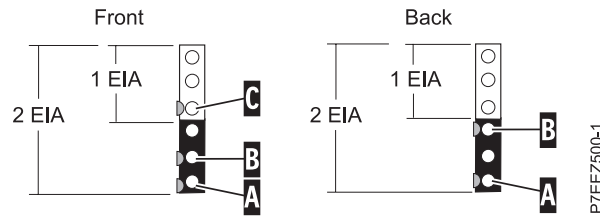

Figure 2. Marking holes on the front and rear of the rack frame
1. Facing the front of the rack and working from the right side, locate the bottom EIA unit that your system will use. Make a note of the EIA location. Use tape, a marker, or a pencil to mark the bottom hole of this EIA unit as **A**, as shown in Figure 2 on page 5. Mark the rack so that the mark can also be seen from the rear of the rack.
2. Beginning with the hole identified by mark **A**, count up one hole and place a second mark as **B**. Mark the rack so the mark can also be seen from the rear of the rack, as shown in Figure 2.
3. Beginning with the hole identified by mark **B**, count up two holes and place a third mark as **C**, as shown in Figure 2.
7. Beginning with the hole identified by mark **A**, count up two holes and place a second mark as **B**, as shown in Figure 2.